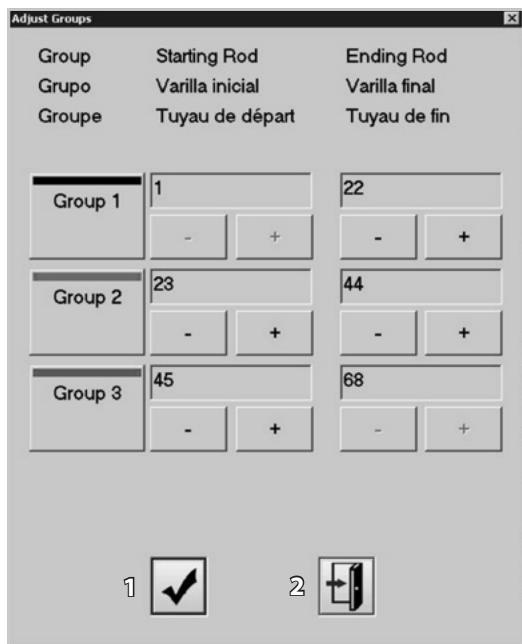

Figure 55
1. On the Main screen (Section 3.3), click Adjust Group to open Adjust Group Screen (Figure 55).